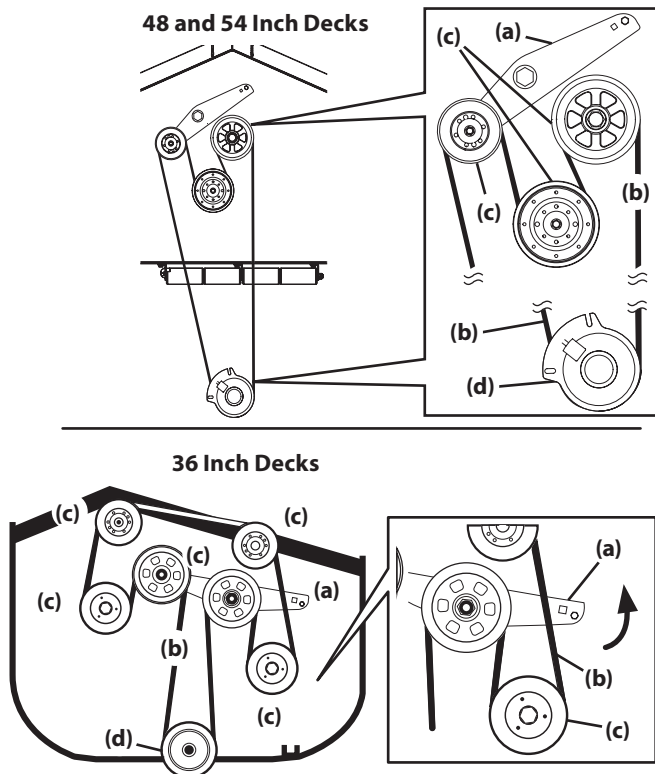

Figure 32
3. Using a 1/2" (12.7 mm) drive in the idler pulley bracket (a), turn the wrench towards the front of the mower and slide the PTO belt (b) off the deck pulleys (c) and the PTO clutch (d). See Figure 32.